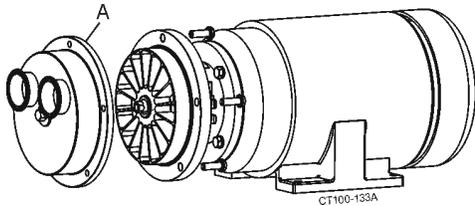

**Figure 33 - 2065LR Stud - Impeller Nut**
6. See Figure 33. Screw the stud into the motor shaft, finger-tight, until the stud protrudes .375" from the impeller.